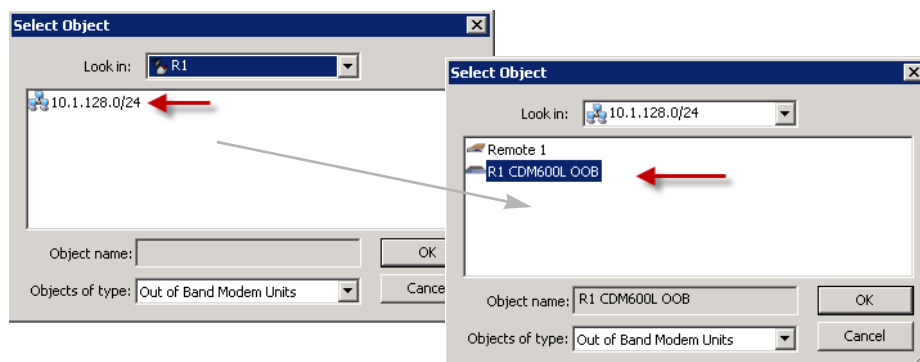

Figure 7-13 Select Managed Unit, Full Duplex P2P
6. Double-click on the subnet, then select the OOB modem unit that will be used for this circuit (figure 7-13) and click **OK**.
11. Navigate through the Select Object window to select the corresponding modem unit that will be used for this circuit (figure 7-13) and click **OK**.